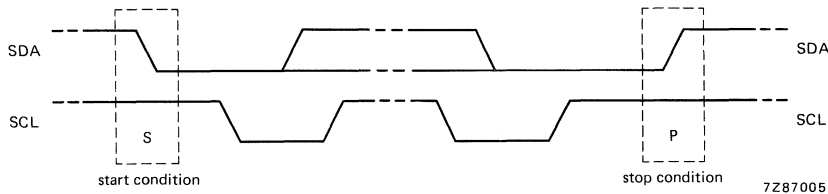

Fig.4 Definition of start and stop conditions.
**Start and stop conditions** (see Fig. 4)